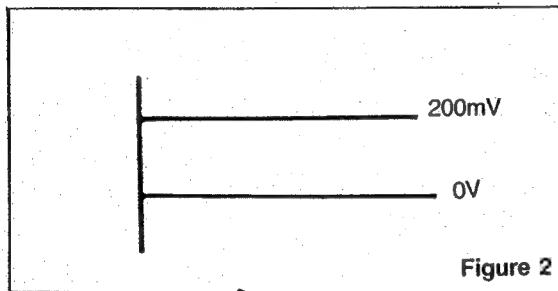

Figure 2
2) Adjusting Procedure (Figure 2)
- Connect the Oscilloscope to TP2 (FE) and TP4 (GND).
- Adjust VR202 so that oscilloscope indicate the figure shown in Figure 2.